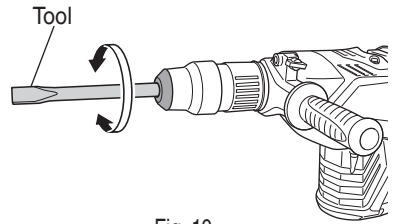

Fig. 10
- (b) Turn the Tool as illustrated in Fig. 10 and fix the tool to the desired working direction.